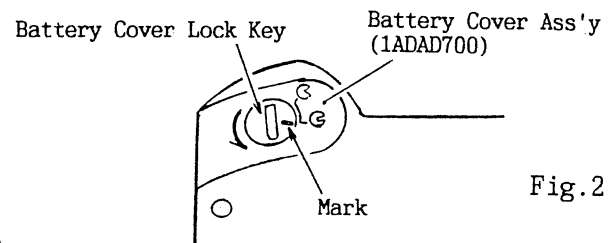

Fig.2
- 1) Using a coin, the Battery Cover lock key on the camera bottom can be turned in the direction of the arrow as shown in Fig.2.